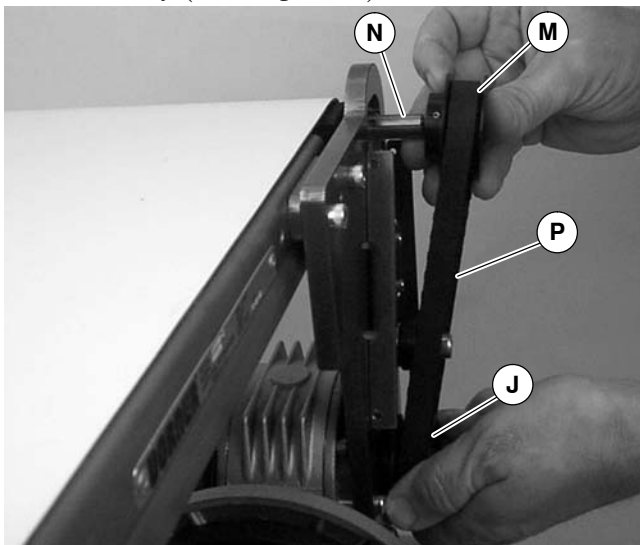

Figure 13
6. Install key (N of Figure 13).